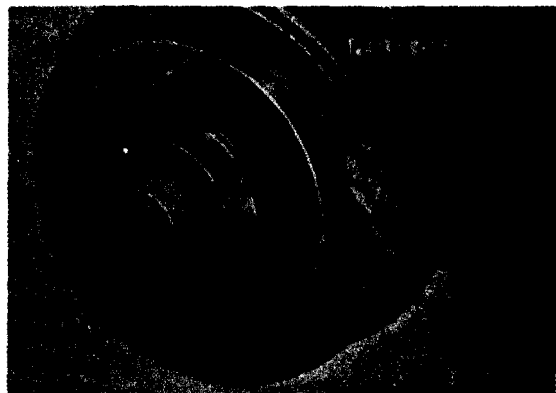

Figure 329. Checking clearance between brakeshoe and drum
- (2) Rotate brakedrum until inspection hole is 1-1/2 inches above lower end of rear brakeshoe. Insert feeler gage in inspection hole (fig. 329) to determine clearance between brakeshoe and drum. Clearance should be 0.010 inch at this point.